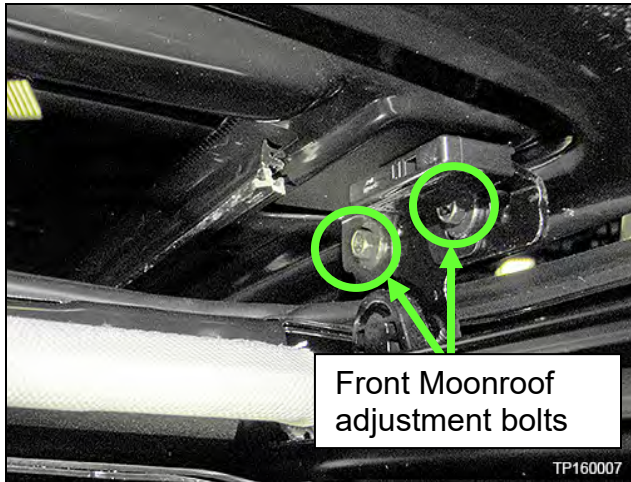

Figure 57
8. Loosen the Moonroof adjustment bolts (Figure 57 for front and Figure 58 for rear) and adjust the glass height to the proper position or height.